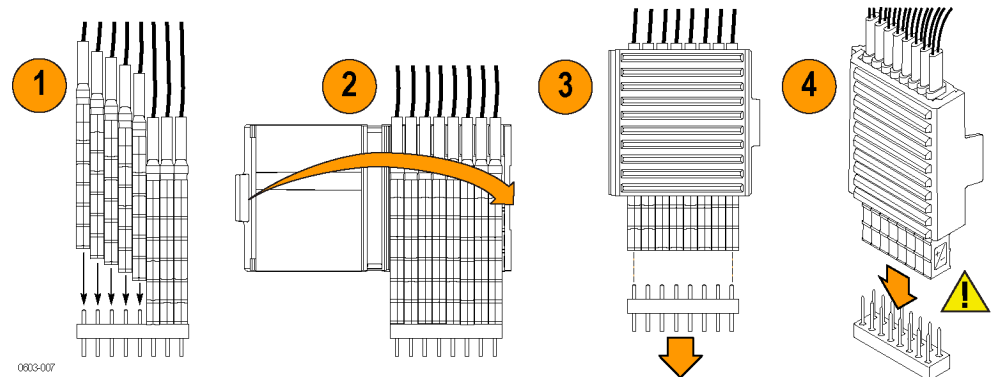

Figure 11: Use the grouper to hold the lead sets together
1. Connect the lead sets to the header. (See Figure 11.)